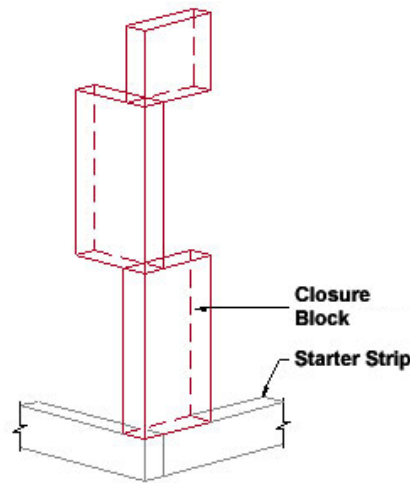

Figure 26
1. Install 6 in (152 mm) wide Closure Blocks around all openings and tops of compartments. Install 12 in (305 mm) wide Closure Blocks on alternating sides of outside corners (see Figure 26), at vertical compartment boundaries (see Section VIII.C), and vertical system terminations.
- a. Install 12 in (305 mm) wide Closure Blocks on alternating sides of inside and outside corners as shown in Figure 26.